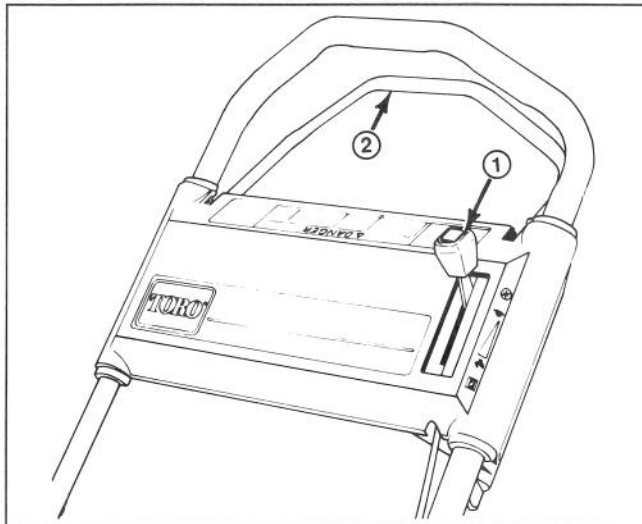
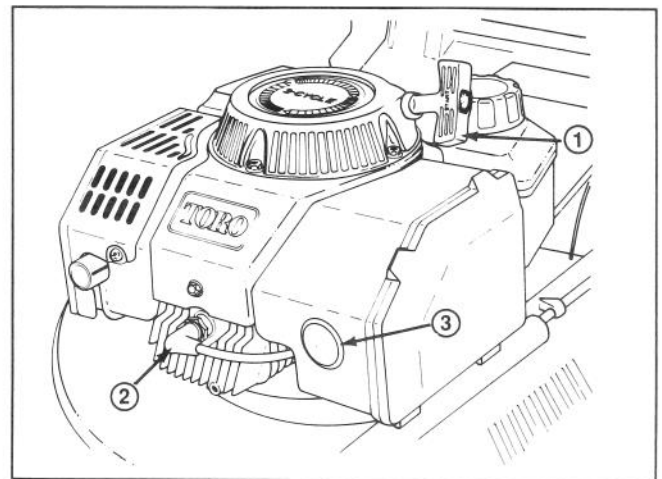
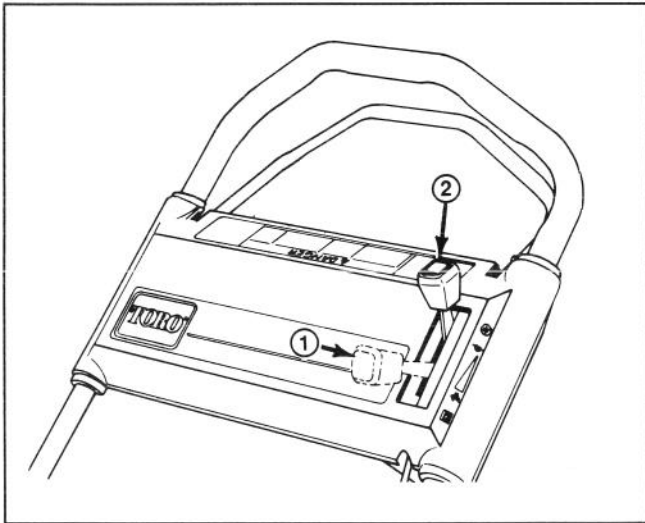

Figure 7
Figure 8
Figure 9
CONTROLS—Throttle and self-propel control bar (self-propelled model) are on upper handle (Fig. 7). Primer is on front of engine, and recoil starter is on top of engine (Fig. 8).
1. STARTING—Push spark plug wire onto spark plug (Fig. 8). Move throttle forward to CHOKE position (Fig. 9).
3. Pull engine mounted recoil starter (Fig. 8) out until slack in rope is taken up. Then pull vigorously to start the engine. When engine starts, move throttle rearward to FAST position or regulate engine speed as desired.
NOTE: If engine does not start, move throttle to ENGINE OFF position (Fig. 9) and wait 3 seconds. Then repeat steps 1–3 until engine starts.
4. STOPPING (Fig. 9)—To stop engine, move throttle rearwards to ENGINE OFF position. Pull wire off spark plug if mower will be unattended or not used.
1. Stop the engine and pull wire off spark plug (Fig. 8).